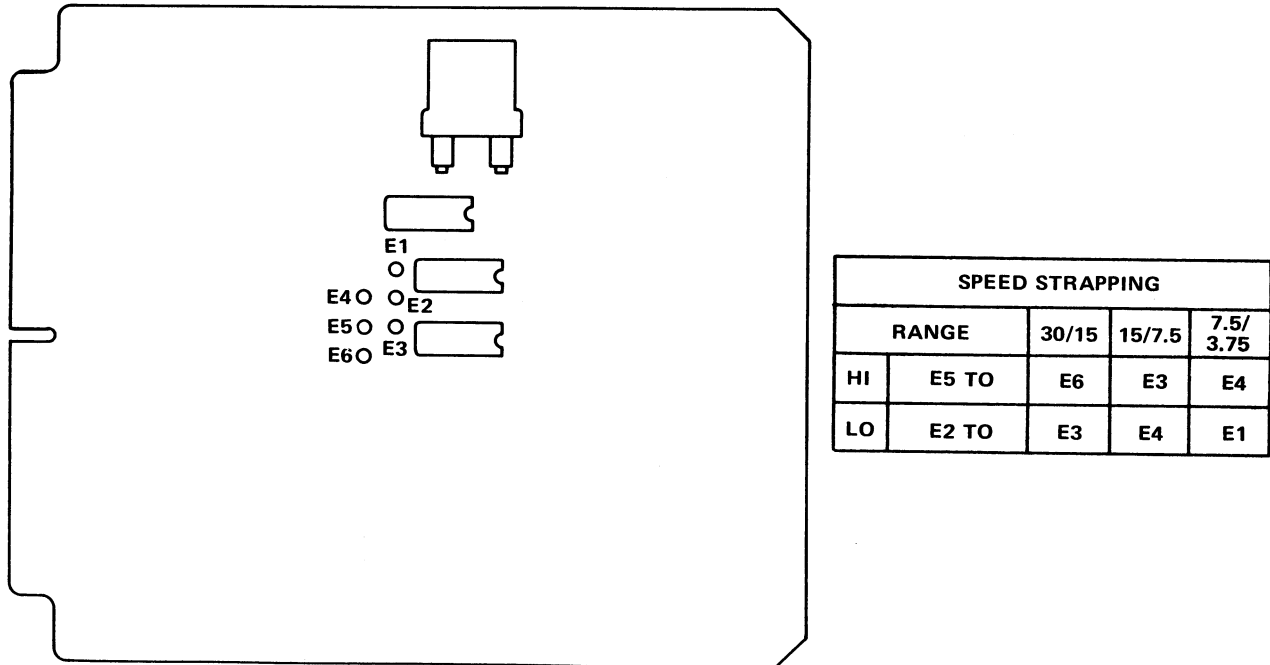

Figure 5. Tape Speed Pan Strapping
3. Connect a jumper from the terminal associated with the low position of the SPEED switch, designated E2, to the terminal associated with the desired low tape speed (E1, E3 or E4). Refer to Figure 5.